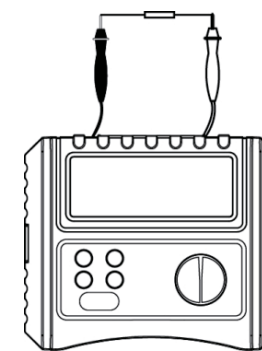

Figure 3
VIII. Testing for Continuity (See Figure 3)
- Turn the rotary switch to Ω position, then press TEST button to begin. Refer to Figure 3 for details.